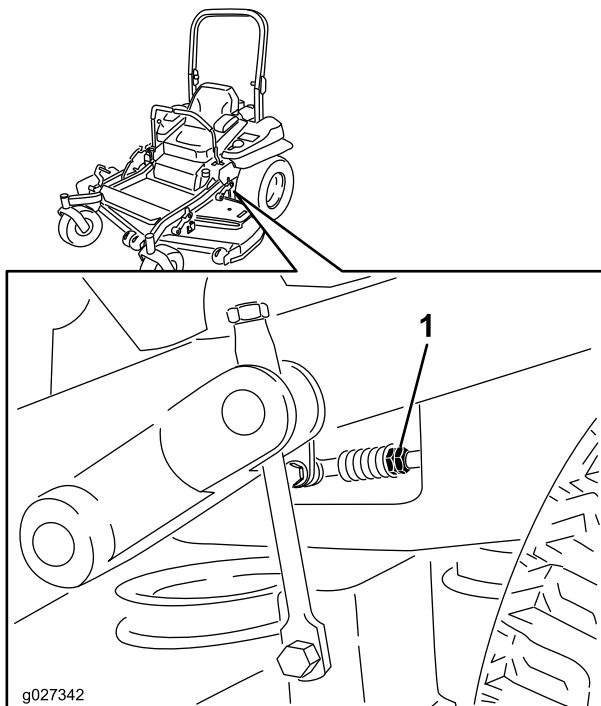

Figure 87
9. Adjust the pump control rod lengths by rotating the double nuts on the rod in the appropriate direction until the wheels slightly creep in reverse (Figure 87).